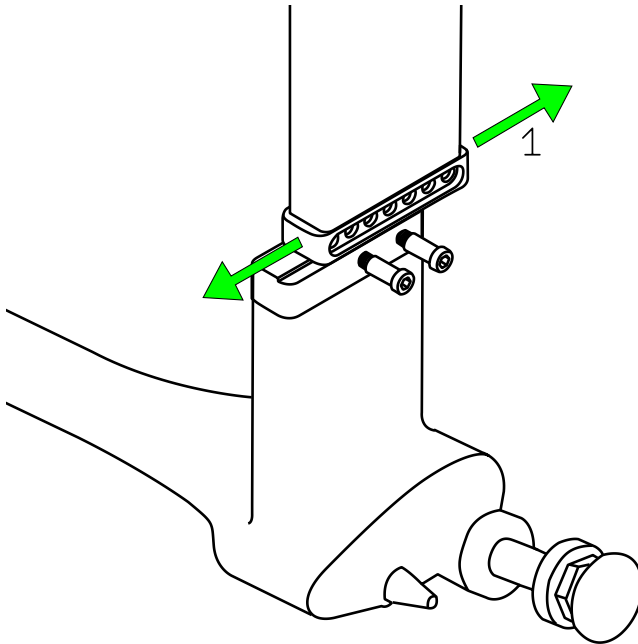

Figure 5.1
- Slide the lower/upper section back or forward on its track (Fig 5.1, 1)